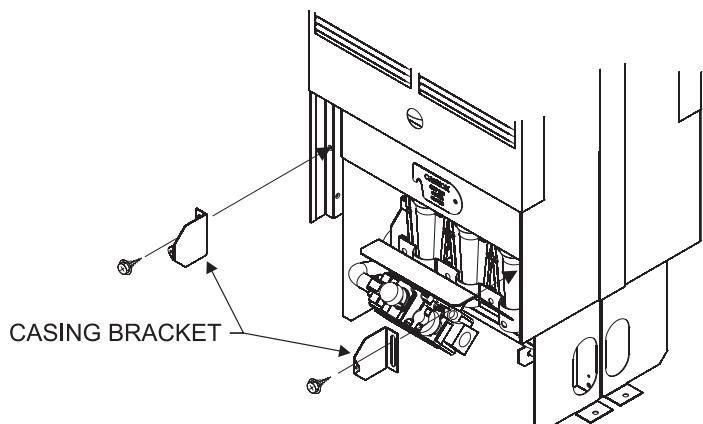

**Figure 20**
3. Insert furnace flue into rectangular opening in header plate and raise furnace carefully (see Figure 20).